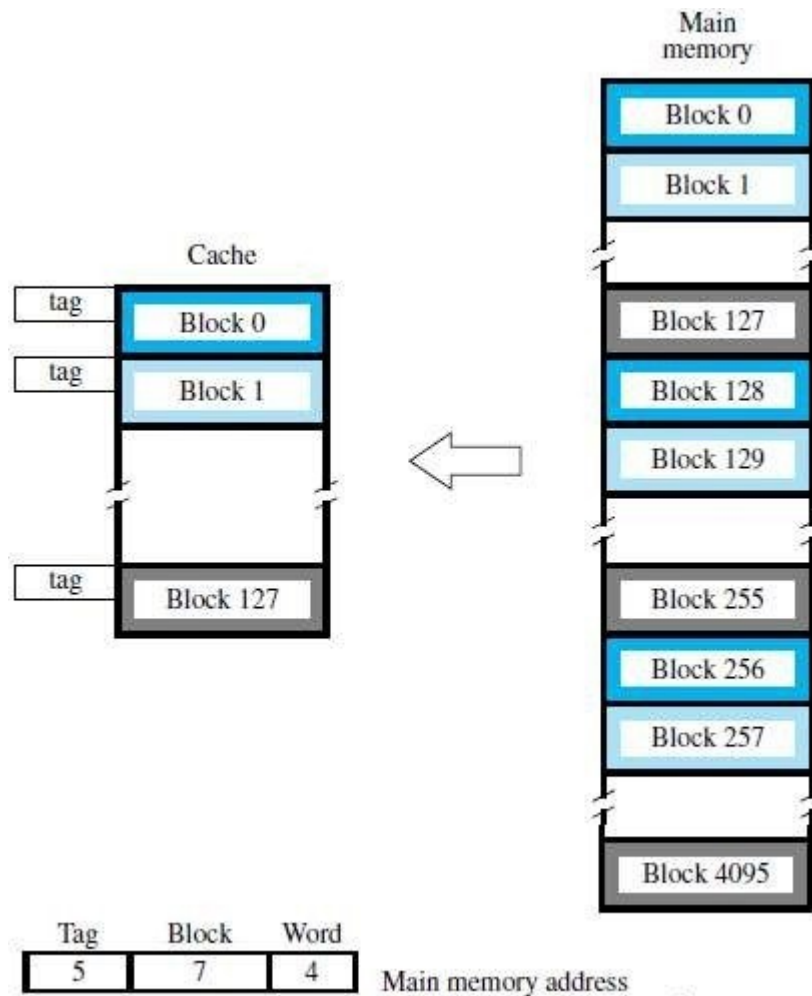

Figure 8.16 Direct-mapped cache.
- The block-j of the main-memory maps onto block-j modulo-128 of the cache (Figure 8.16).